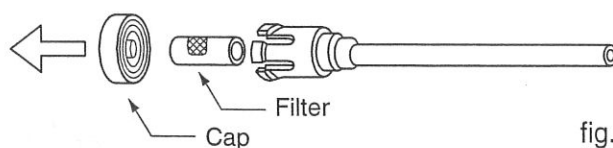

fig.47
- ① Scrub the tanks with a sponge (or clean cloth) and warm water (under 104°F).
- ② Remove the caps in the replenisher supply pipe. (fig.47)